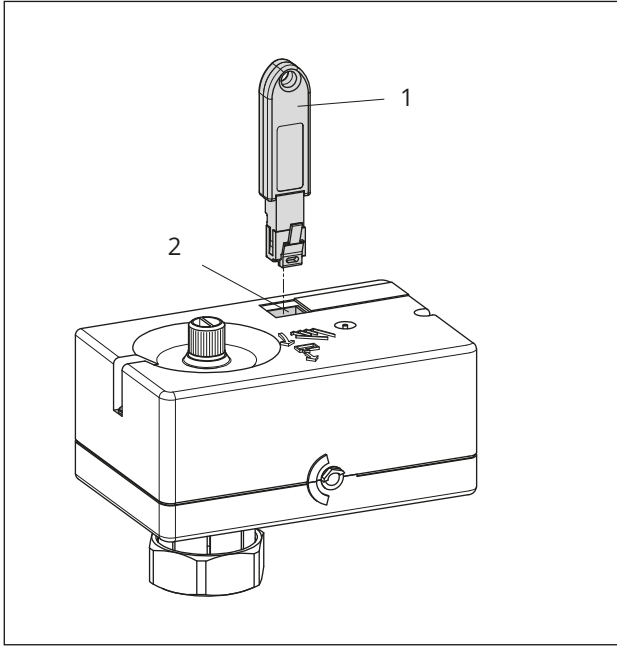

Fig. 15: Connecting actuator and memory pen
The memory pen is connected to the actuator as shown in Fig. 15. The TROVIS-VIEW Operating Instructions ► EB 6661 describe how to transfer data.
1. Plug the memory pen into the serial interface of the actuator (Fig. 15). The yellow LED on the actuator indicates that the data logging is being prepared (see Chapter 8.4). A change in the blinking pattern of the yellow LED indicates that data are being saved to the memory pen.